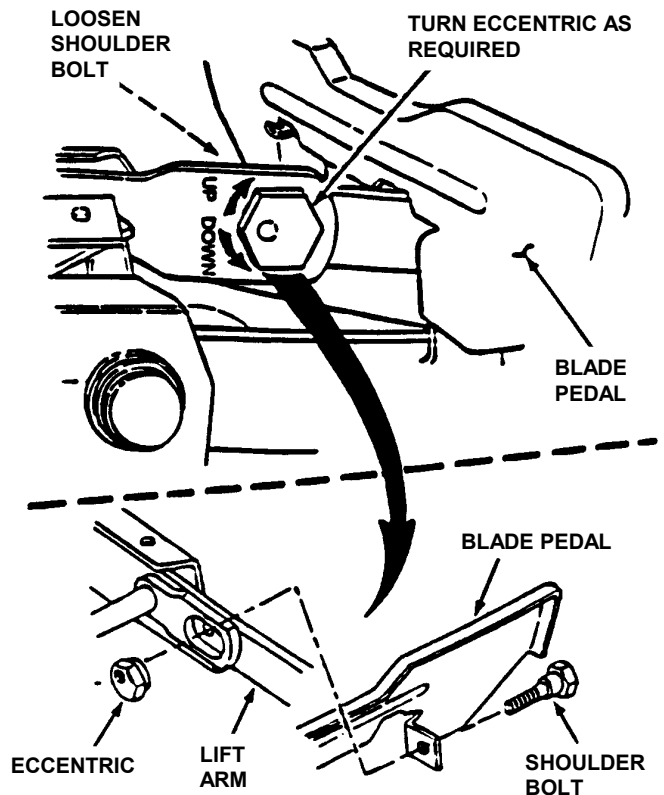

FIGURE 4.4
7. Turn eccentric "UP" or "DOWN" as required until blade tips are within  $1/8$ " of each other. See Figure 4.4.